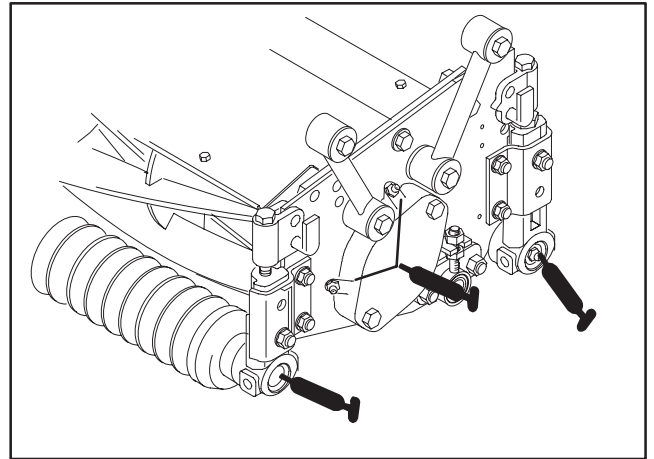
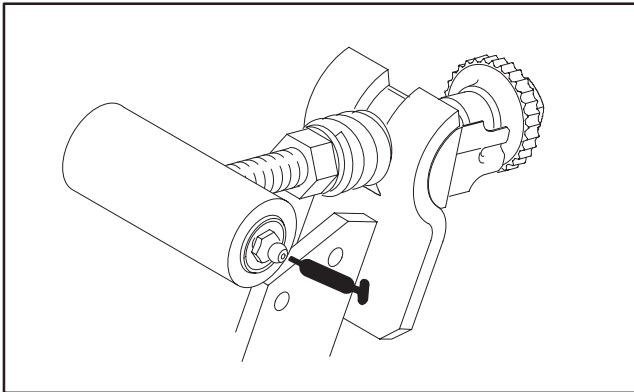

Figure 12
Figure 11
1. The grease fitting locations and quantities are: Bedknife adjuster (2), every 50 hours (Fig. 11); Reel bearings (2) and front and rear rollers (2 ea.) (Fig. 12).